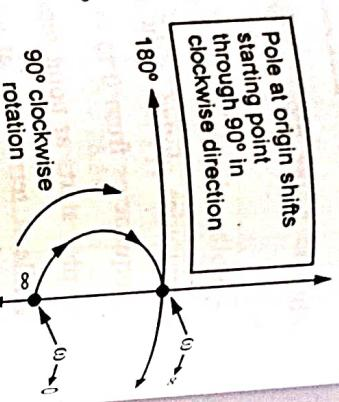

Fig. Q.19.2
- So the polar plot is starting from  $\omega \rightarrow 0$  with  $\infty \angle -90^\circ$  it ends at  $0 \angle -90^\circ$  with  $\infty \angle -180^\circ$  it ends at  $0 \angle -270^\circ$  with  $\infty \angle -180^\circ$  clockwise rotation as shown in the Fig. Q.19.2.